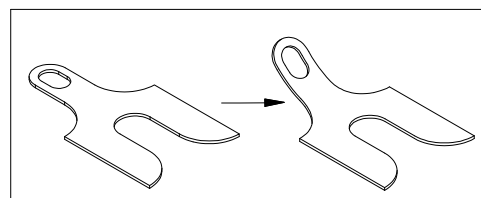
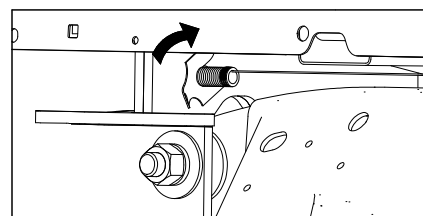

Figure H6: Bolt retainer before and after.
Figure H7: Close-up of carriage bolt installation.
6. **Secure cross members to side plate.** Make a small bend in the tail of one bolt retainer, see Figure H6. Slide the groove of the retainer over the threads as close to the cross member as possible, as shown in Figure H7. Rotate the tool clockwise to temporarily secure the tool to the carriage bolt while the fish wire is removed and the hardware is added.